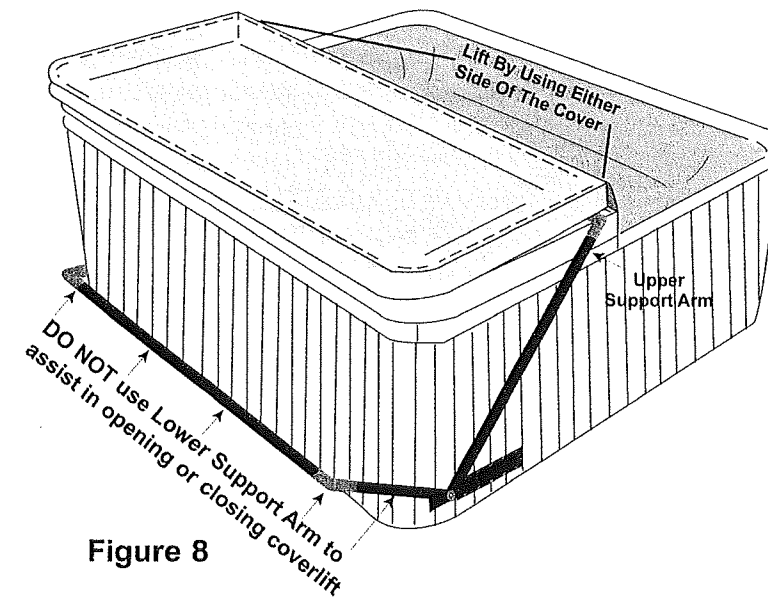

Figure 8
8. The Coverlift is now ready to use. To remove the cover from the spa with the coverlift, fold the spa cover (at the hinge) over the Upper Support Arm (as shown in Figure 8).